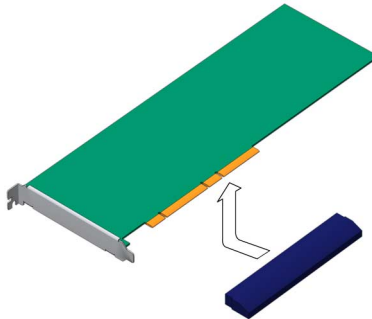

FIGURE 3-68 Lifting the PCI-E Card From the PCI Tray
3. Slide the PCI-E card to the left and lift it out of the PCI tray (FIGURE 3-68).